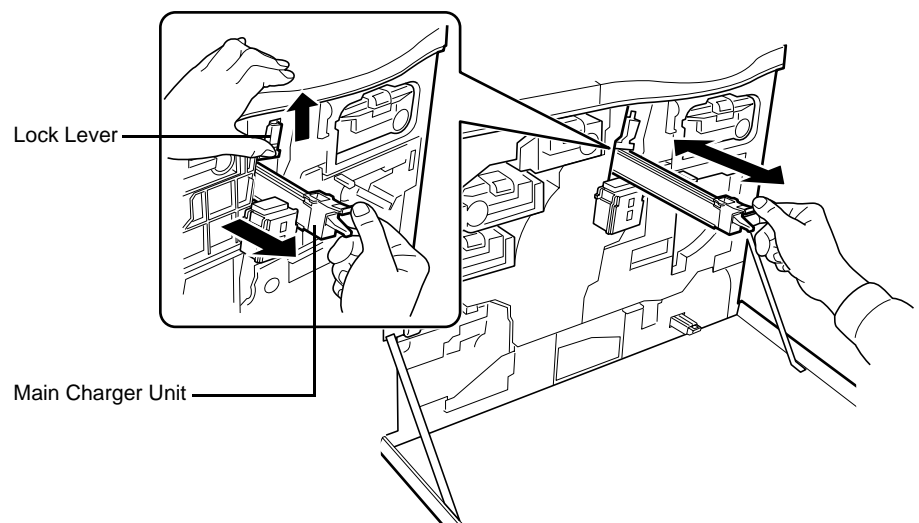

Figure 5-19
- 5 While pushing the main charger unit lock lever upward as shown in Figure 5-19, slightly lift the main charger unit, and gently pull the gray-colored main charger handle out and push it back in. Repeat this 2 to 3 times. These movements clean the grid.